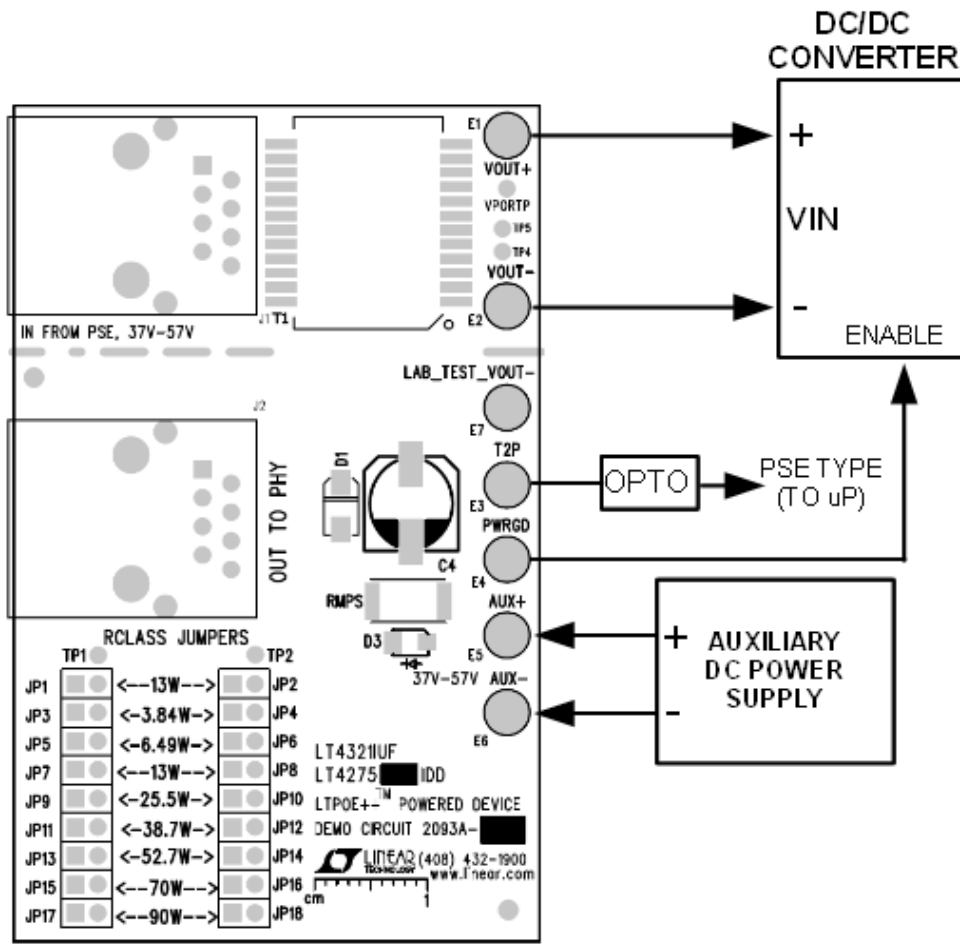

Figure 5. Setup Diagram for the DC2093A-B with a DC/DC Converter
1. Refer to Figure 5 to evaluate the DC2093A-B with a DC/DC converter and an auxiliary DC power supply.